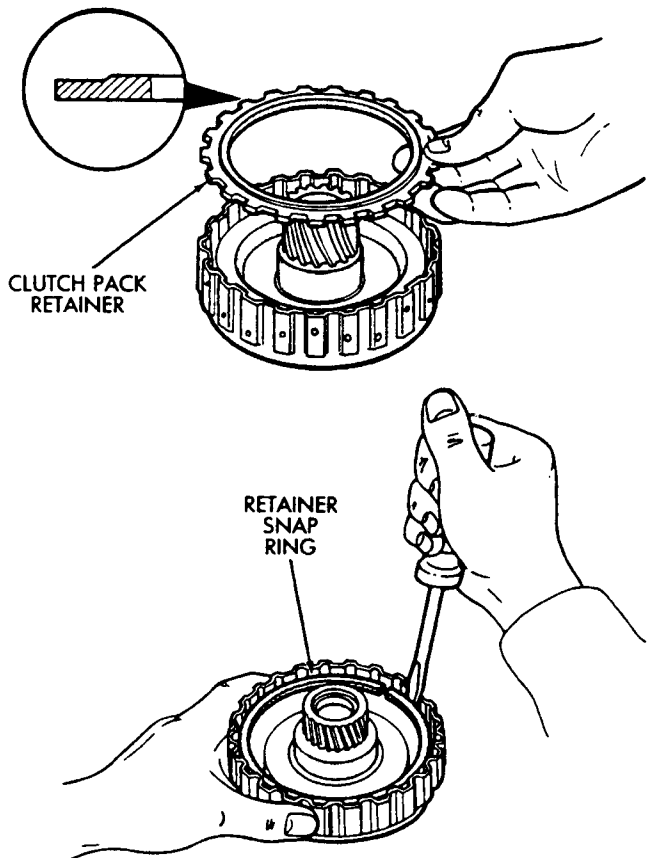
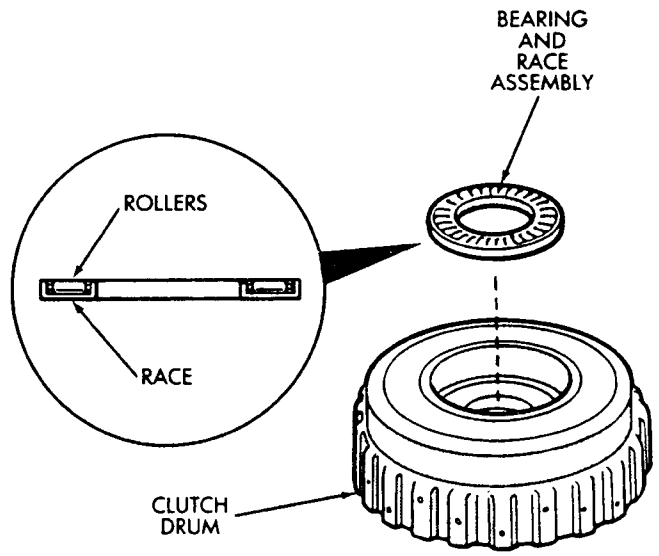

Fig. 26 Installing Retainer And Snap Ring
Fig. 27 Installing Clutch Drum Bearing And Race Assembly
(13) Install clutch pack retainer with flat side facing downward. Then install retainer snap ring (Fig. 26). Compress springs with tool B.Vi. FM. 27.
(14) Measure clutch piston stroke length again (refer to procedure outlined in disassembly procedure). If stroke length is incorrect, install new clutch discs or select fit retainer. Retainer thicknesses are outlined in the Specifications section.
(15) Install clutch drum bearing and race assembly (Fig. 27). Be sure bearing rollers face upward as shown.